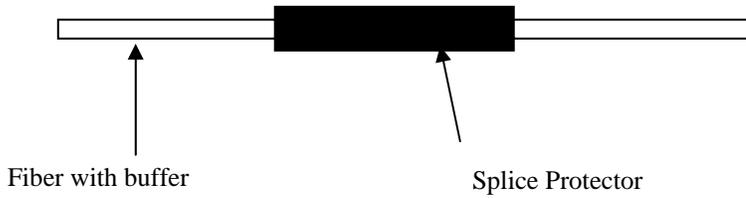

Figure 18 – Splice Protector Installation
Step 2 – Slip the heat shrink splice protector over the fiber(s) (250, 500 or 900 micron buffered fiber). (See Figure 18)